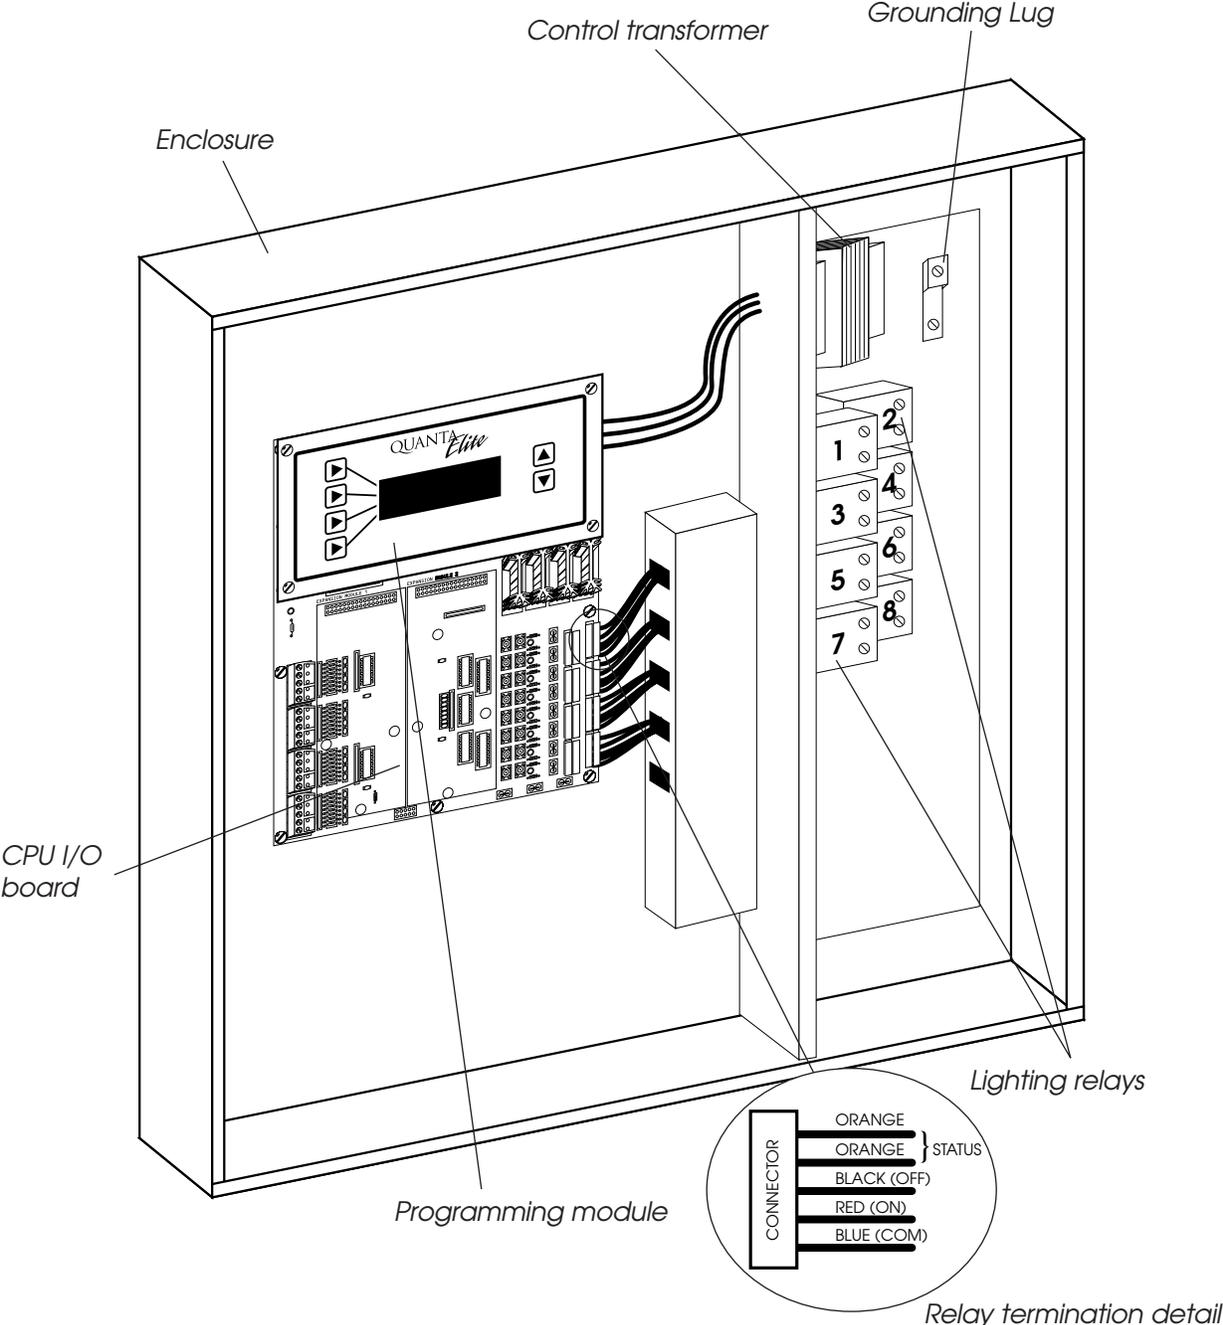

Figure 1.1 – QUANTA Elite 8 Controller
The major components making up the controller are: (See Figure 1.1.)
1.1.1 Enclosure – The enclosure is rated NEMA 1. It is divided into a line voltage section containing the line voltage side of the control transformer and lighting relays and a low voltage section containing the Class 2 side of the lighting relays, transformer secondary, and electronic components. Enclosures are available in 6 sizes to accommodate 8, 16, 24, 32, 40 and 48 inputs, outputs, and lighting relays. (See Table 1-1.) The QUANTA Elite is shipped to the job-site as a complete assembly. (See Figure 1-1 which illustrates QUANTA Elite 8.)